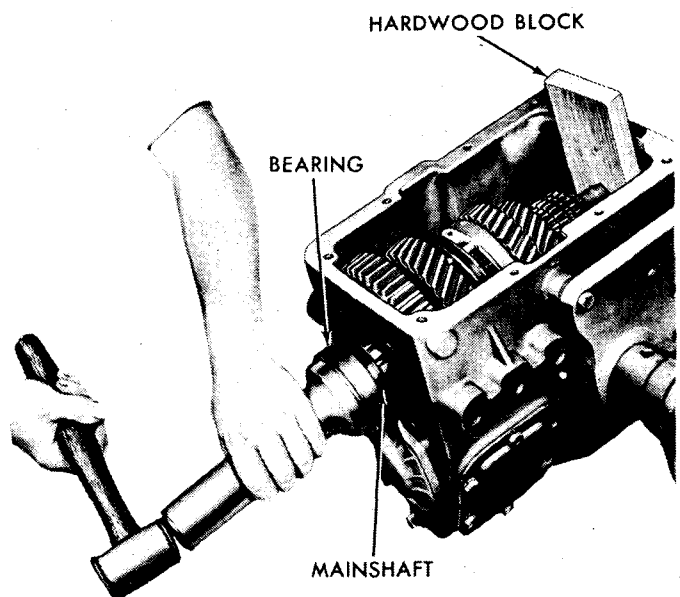

Fig. 11—Installing Mainshaft Rear Bearing
- (2) Place a hardwood block at the front of the mainshaft and drive the mainshaft bearing onto the shaft (Fig. 11) and into case.